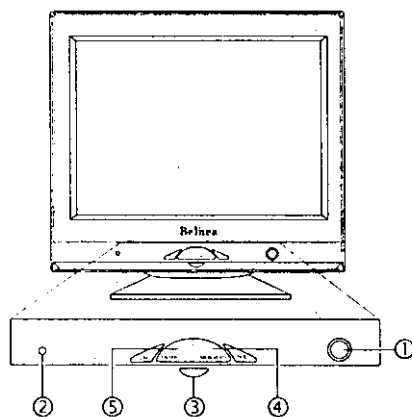

Figure 3. Monitor features
3. First, turn on your PC, and then turn on your Belinea monitor by pressing the power button (see ① in figure 3). The status indicator (see ② in figure 3) should light up green.
1. Press the OSD button **MENU/EXIT** (④ in figure 3) to display the OSD menu on the screen.
2. There are 6 OSD submenus, each corresponding to a separate category. Select the icon representing the desired category by turning the OSD dial (③ in figure 3) and pressing the OSD button **ENTER** (⑤ in figure 3).
You can adjust the contrast and brightness directly by turning the OSD dial (③ in figure 3) while the OSD menu is not active. Turning the dial to the left displays the OSD contrast menu while turning it to the right
figure 3) will become orange. Most graphic cards and PCs support monitors with power management features. If you have an older PC or graphic card that does not support power management features, please contact your dealer.